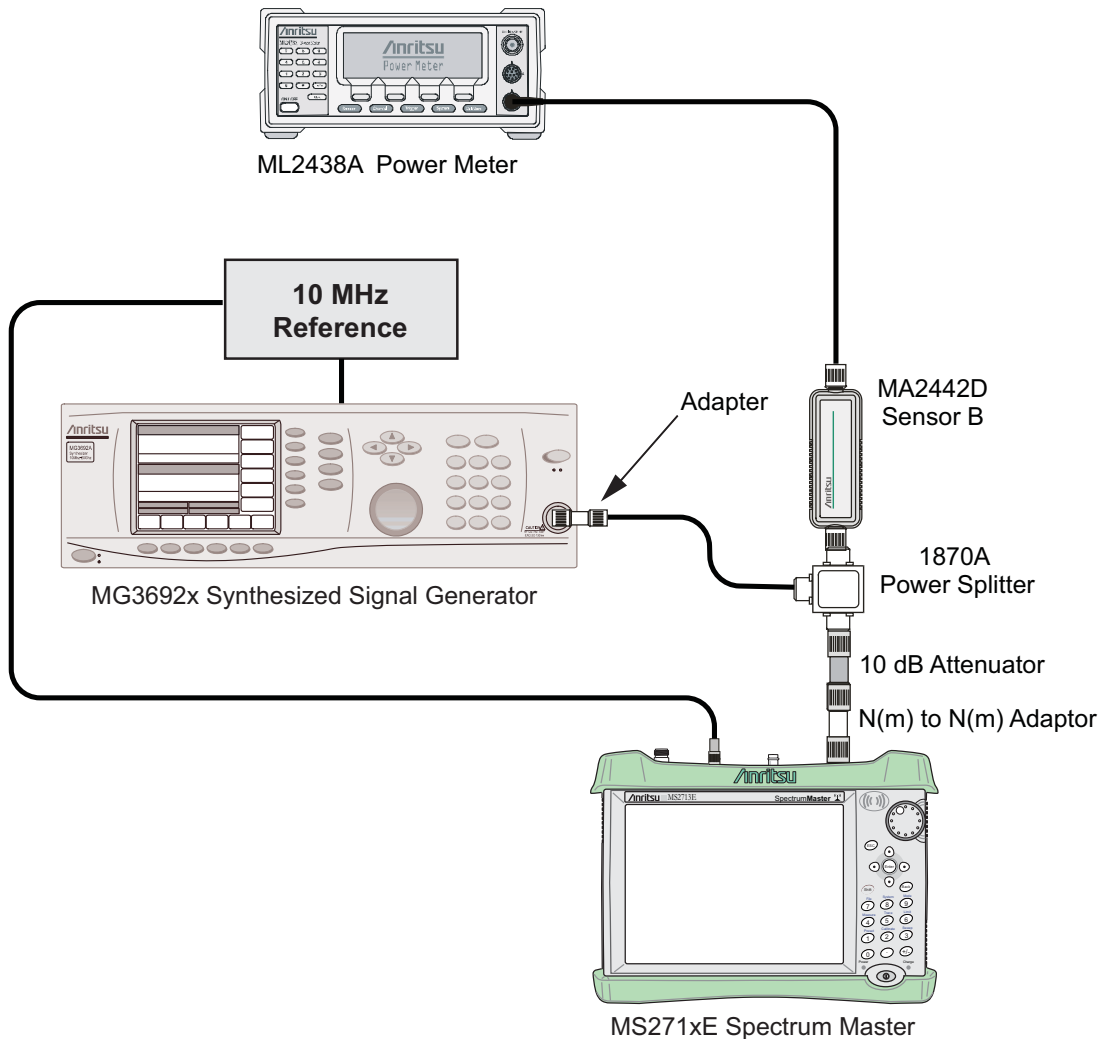

Figure 2-2. Absolute Amplitude Accuracy Verification Test Setup
1. Remove Sensor A, add the adapter, and connect it to the Spectrum Analyzer RF In connector of the MS271xE Spectrum Master as shown in Figure 2-2.